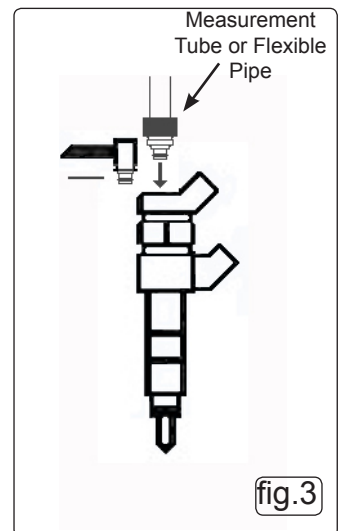

fig.3
- 3.2.3. Connect the tubes to each injector (fig.3), the wire clips are not required as the return system is low pressure.